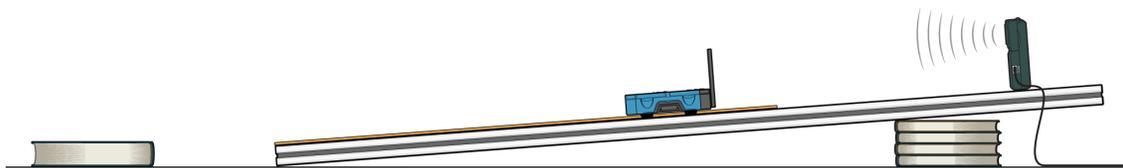
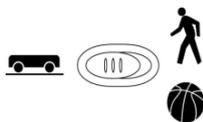

Figure 1
Figure 2
- a. Set up the board as shown in Figure 1. The high end of the ramp should be no more than 30 cm from the floor.
- If your Motion Detector has a switch, set it to Cart (see Figure 2). Connect the Motion Detector to a digital port of the interface. Position the Motion Detector at the top and center of the track as shown in Figure 1.